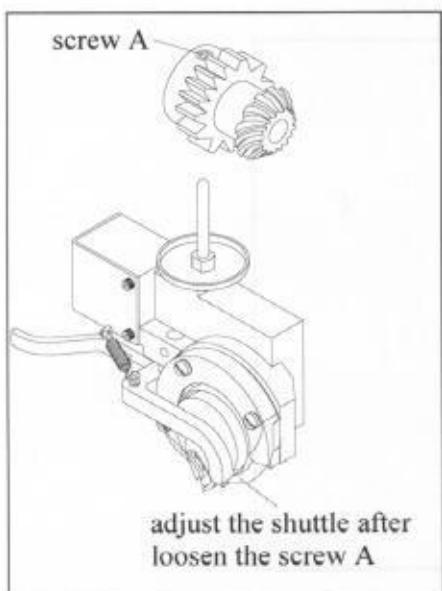

Fig.5
4.3 Adjustment of the shuttle(Fig.5):
Loosen the two fixing screw A on the gear(Fig.5), rotate the shuttle in clockwise direction or in anti-clockwise direction.